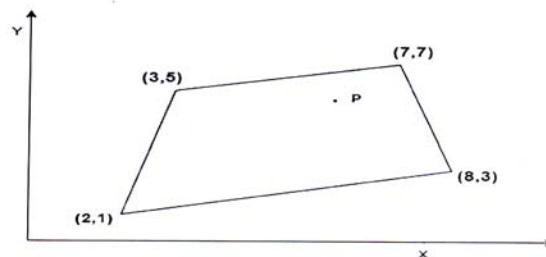

Fig. 2
- Q2) a)** Determine the Cartesian Coordinate of point P ($\xi=0.5$, $\eta=0.6$), shown in Fig.2 [10]